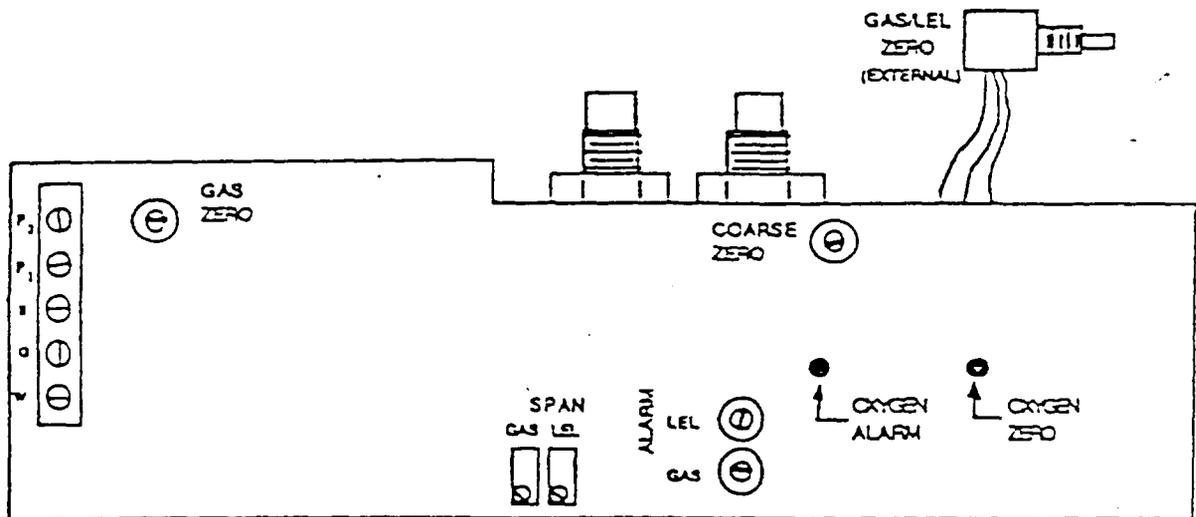

FIGURE 2
5.1.3 Open the instrument case by loosening the captive screw at the front of the unit. Lift the upper half of the case slightly, moving it 1/4 inch to the rear to disengage the rear clamp; then separate the two halves. Locate the COARSE ZERO potentiometer on the underside of the circuit board (see Figure 2).